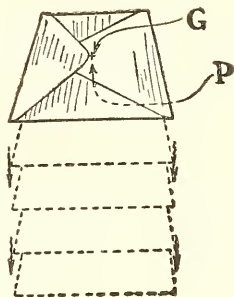

FIG. 472
point. The center of air pressure varies. When the envelope is dropped straight down, flat (Fig. 472), this center of pressure (P) comes at the same point as the center of gravity (G), and